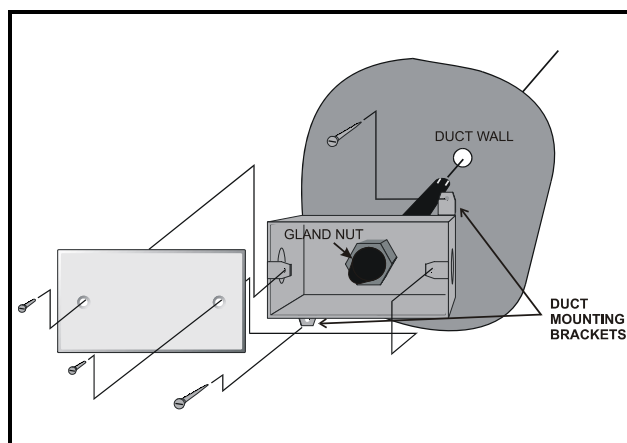

Figure 3-27 - Duct-mounted RH Sensor - Exploded View
2. Bolt the sensor enclosure against the outside of the duct wall so that the sensor element fits through the hole and into the duct. The enclosure may be mounted horizontally, as shown in **Figure 3-27** or vertically. The screws should be tight enough for the foam gasket around the bottom of the sensor to form an airtight seal between the hole in the duct wall and the outside air.